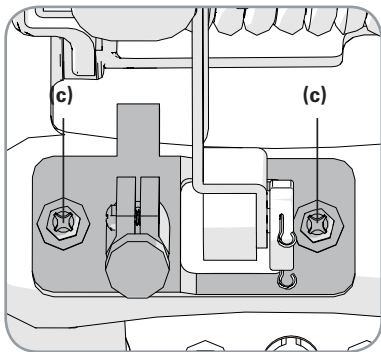

Fig. 7 (c) - Adjustment screws
- Slacken the two screws. (**Fig. 7, c**)